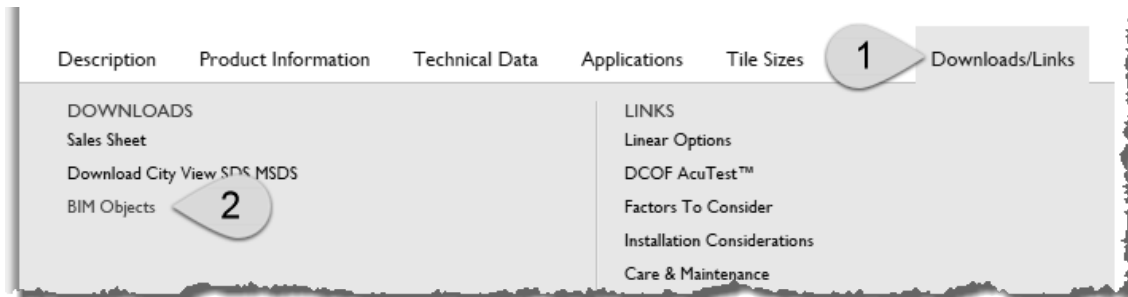

FIGURE 4-4.16 Large preview image from Dal Tile website
63. Scroll down and select **Downloads/Links**; click **BIM Objects**. This opens the ARCAT website - click **Materials**, and then click **Download Revit Files: zip**. Save the 300mb file to your computer. (Figure 4-4.16).